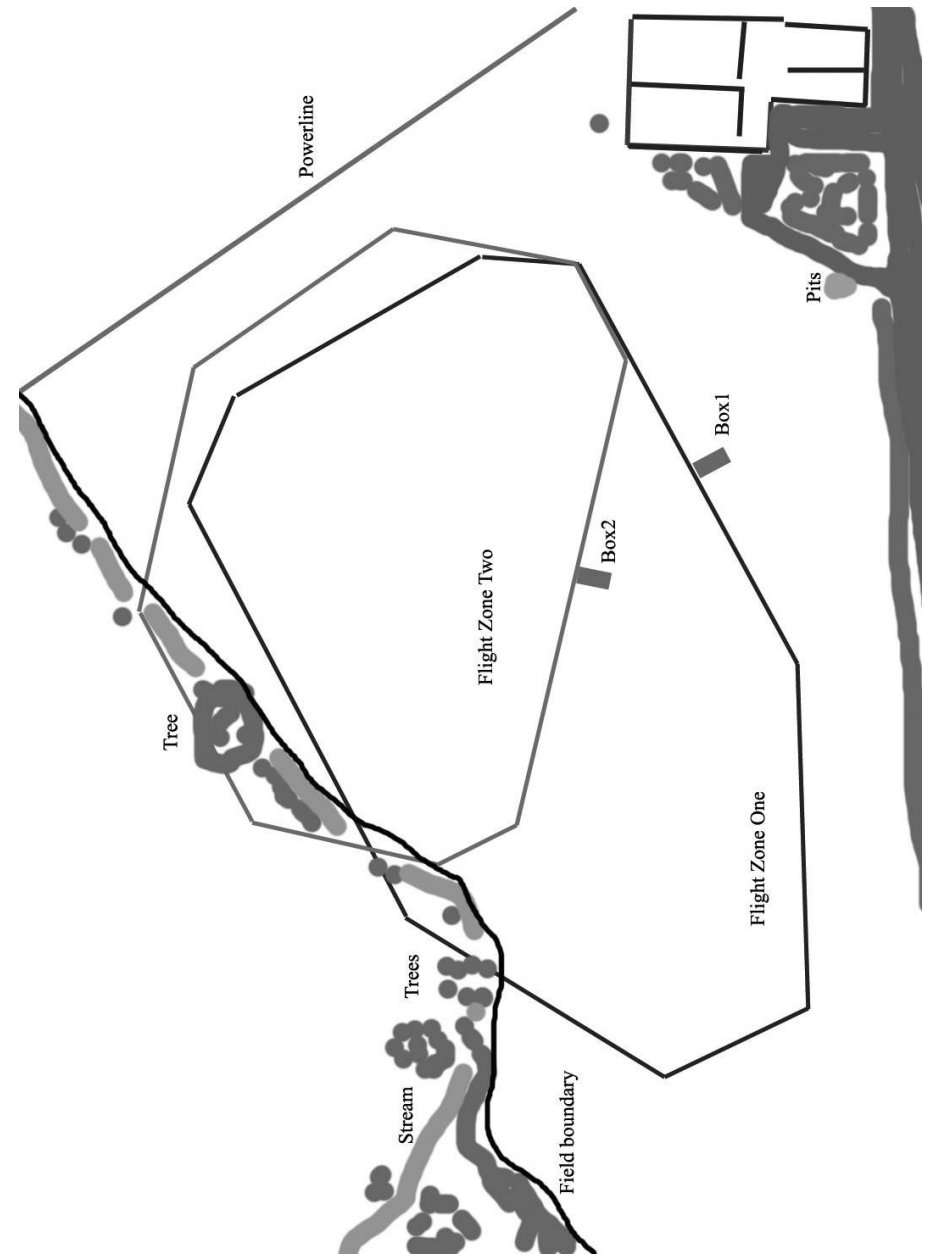

Figure 3 Helicopter field layout
The NBRMAS helicopter flying field is adjacent to an operational landing strip used by privately owned light aircraft. These aircraft may occasionally enter the airspace normally used by model aircraft. The position of the landing strip, relative to the Society Field, is approximately 50 metres south of the lane indicated in Figure 3.
- 7.2.1.1* **Models must only be flown within the designated fly zone (see Figure 3).** Models shall not be flown towards or over, the pits, spectators, horses and their riders, the lane or the barns.